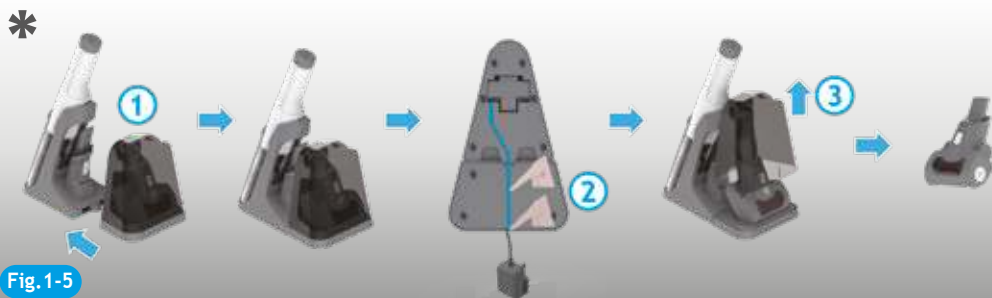
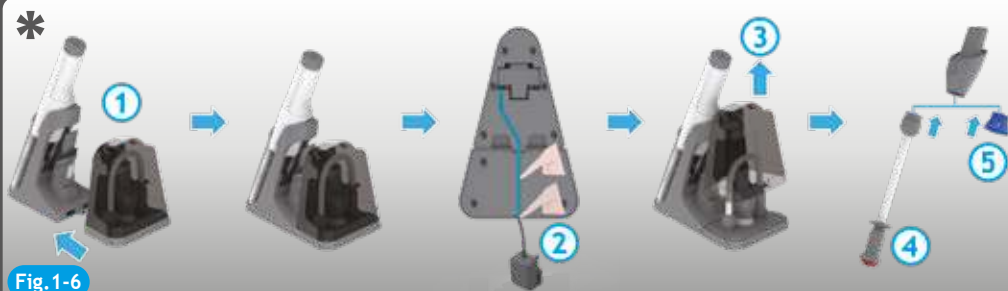

Fig. 1-5
Fig. 1-6
7. Insert the accessory box* into the back of charger base. [Fig. 1-5 and Fig. 1-6]
8. Press the wire into the wire slot. [Fig. 1-5 and Fig. 1-6]
10. Put the Space & food saver kit* into the accessory box*. [Fig. 1-6]